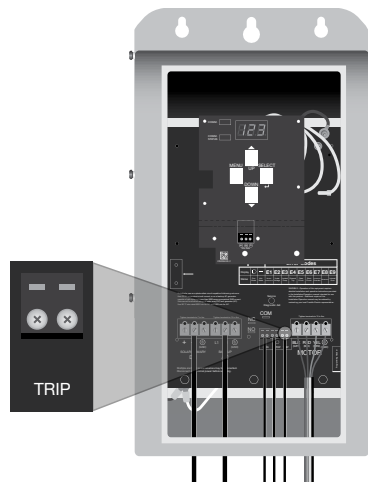

Figure 7: Flow Switch Wiring Connection
1. Connect the cables from the Flow Switch terminals NO and COM, and to the SubDrive Solar terminal block labeled “TRIP” (Figure 7).